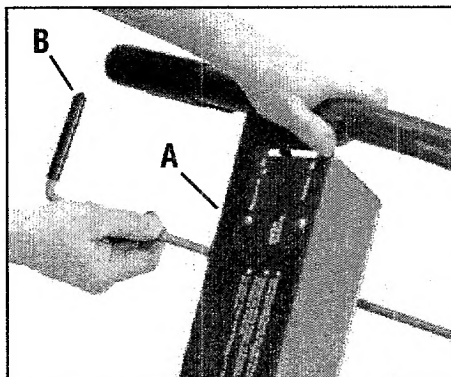

Figure 2-2: Remove Reverse Clutch Lever.
1. Remove the Reverse Clutch Lever (B, Figure 2-2) from the handlebars (A). Remove any rubber bands from the handlebars.